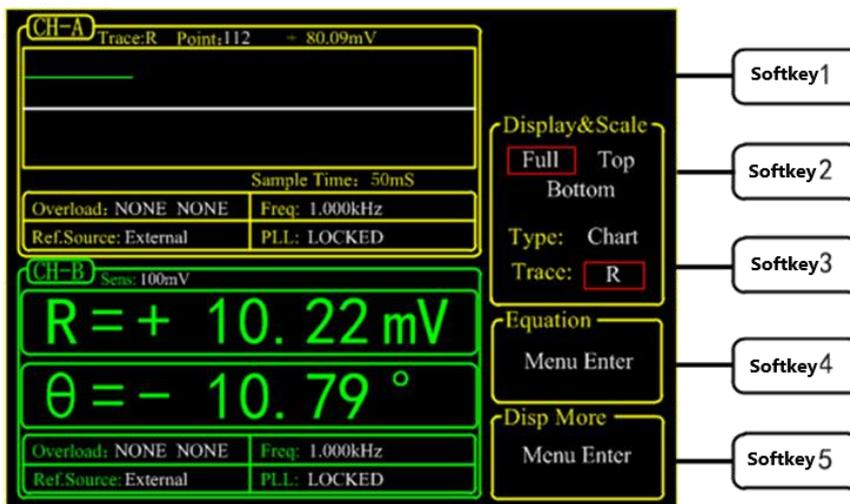

Fig.89 Display \langle θ \rangle in XY Chart
Third, press [soft key 3] to highlight \langle Trace \rangle and then choose \langle θ \rangle . After these settings, the result is shown in Fig.89.